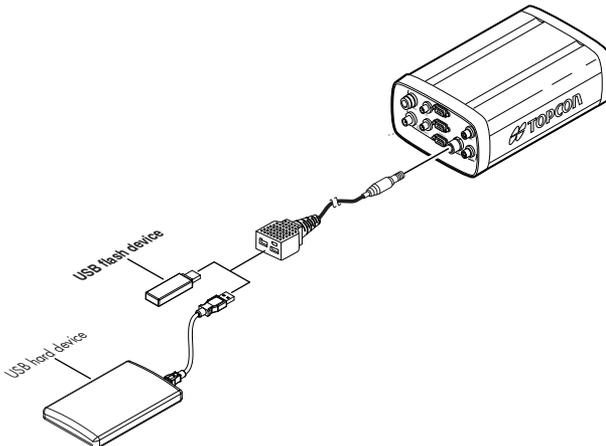

Figure 2-4. Connecting the UMS Device
2. Connect the UMS device to the type A USB port on the adapter cable. (See Figure 2-4). The receiver does not have to be turned